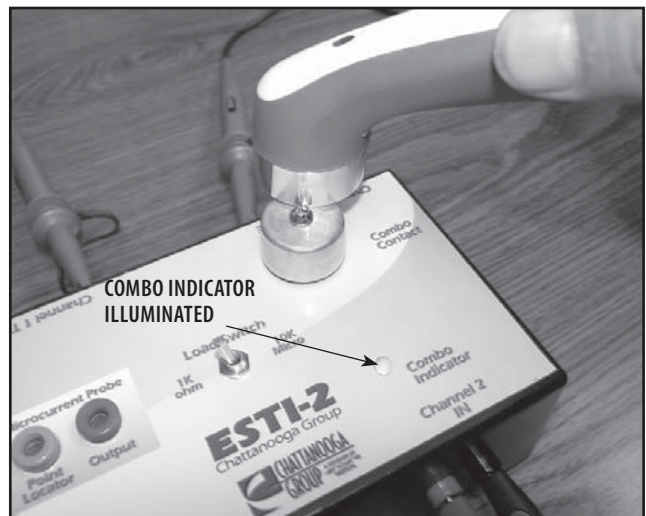

FIGURE 5.26
8. Touch the Ultrasound Applicator to the Combo Contact on the ESTI-2 Load Test Fixture. The Combo Indicator on the ESTI-2 should illuminate, **See Figure 5.26.**